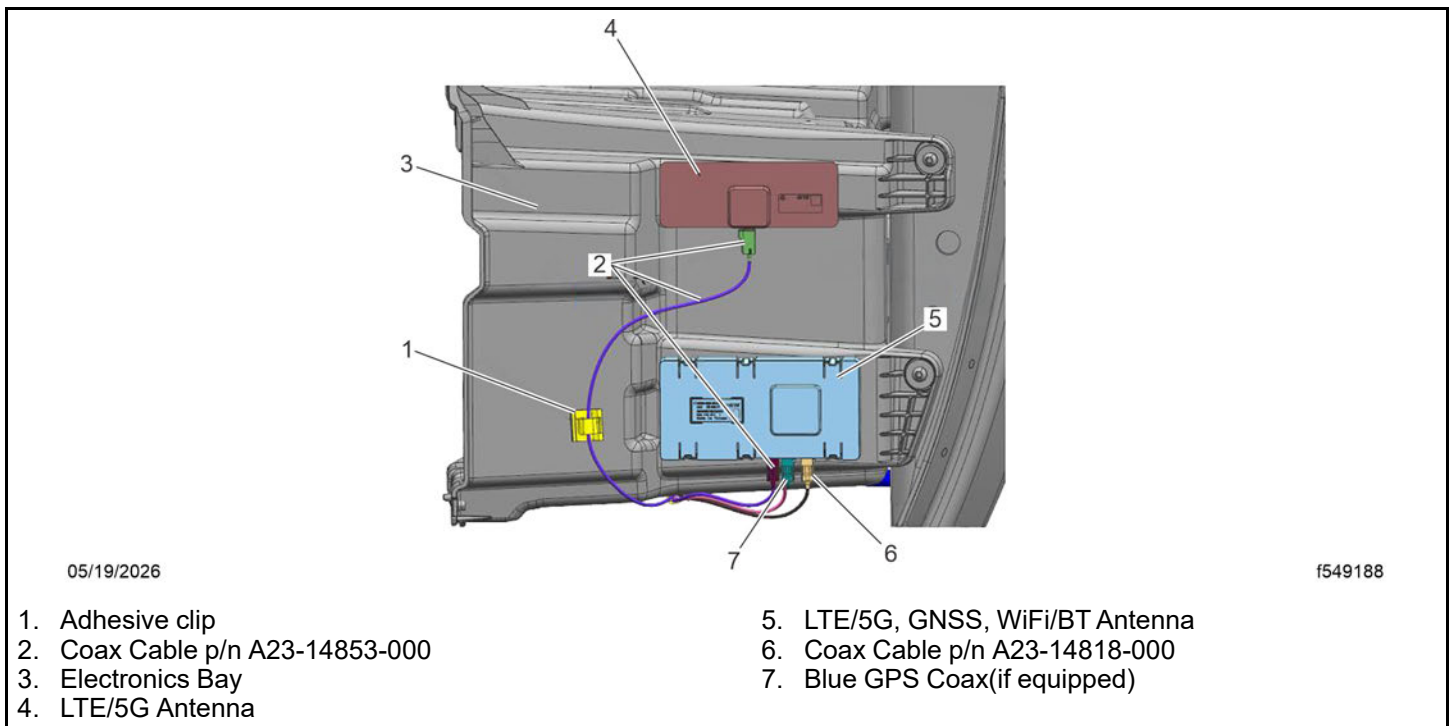

Fig 1, Top View of the Electronics Bay
8. Connect both of the new coaxial cables (A23-14818-000 and A23-14853-000) from the topside antennas to the CTP ECU and the internal antennas. Connect all connectors to the antennas and the CTP ECU internal antennas, making sure to match them by color. Use installation drawing **D66-28199-000** as a reference for coaxial cable routing and clipping points. Secure all coaxial cables using adhesive clips and tie straps as indicated in the installation drawing. Replace any missing, misplaced, and/or broken clips as required. Some vehicles require an adhesive clip to be added to the top of the electronics bay and used according to installation drawing **D66-28199-000**. See Fig. 1.